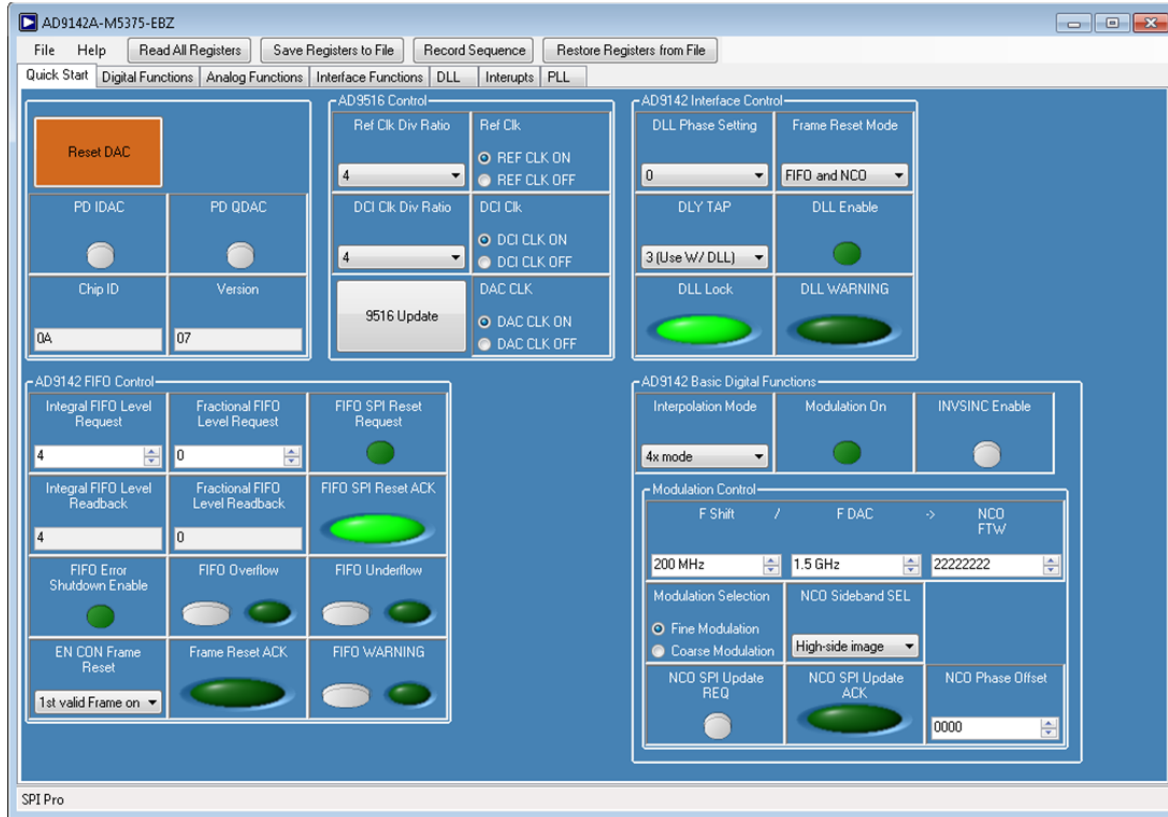

Figure 19. SPI Control User Interface Setup for AD9142A
7. Set up the AD9142A through the USB using the AD9142A SPI control software, as shown in Figure 19, and run. See the AD9142A Evaluation Board Quick Start Guide.